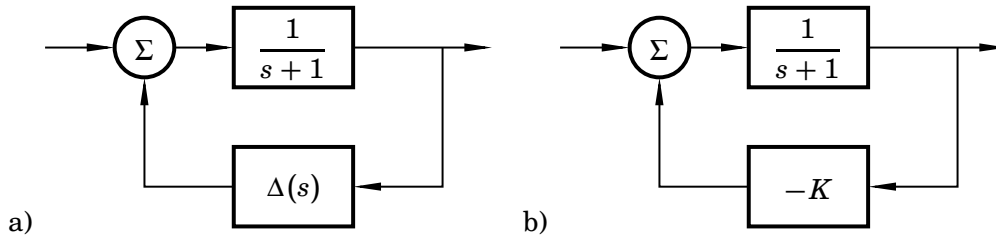

Figure 3.1
- 3.1** a. Analyze the stability of the system to the left in Figure 3.1 using the small gain theorem.
- b. Analyze how the stability of the system to the right in Figure 3.1 depends on the constant feedback gain K . If you get different results from a, explain why!